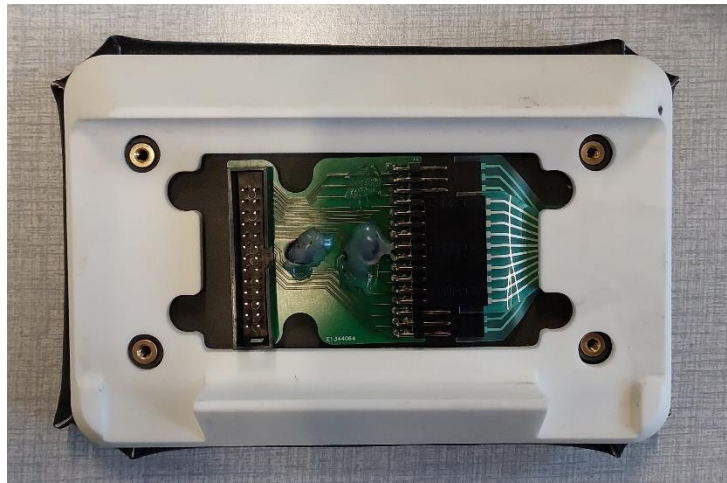

Figure 28. New back head pad.
9. Take the new back head pad and place it on the head array (See Figure 28).